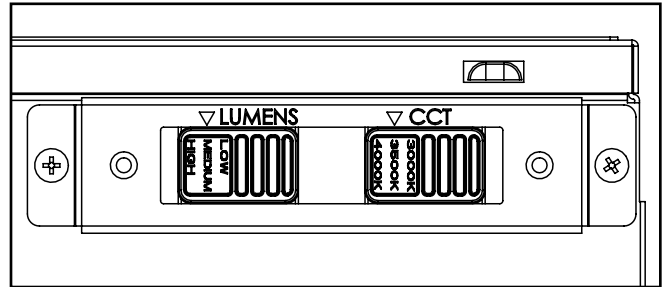

Figure 7.
- With fixture powered on, use the lumen switch and CCT switch (if equipped) to adjust the fixture to the desired lumen level and CCT (Figure 7). Refer to label on top of driver for lumens and wattage of each setting.